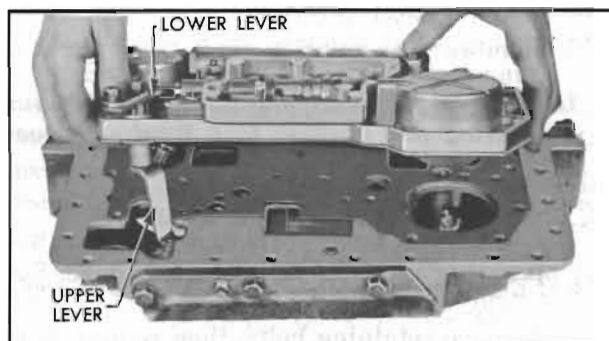

Figure 5-31—Removing Valve and Servo Body Assembly
8. Lightly pry upward on the assembly to free the gasket between servo body and transmission case. Push shift control valve and lower operating lever inward to align the lower lever with opening in transmission case, then remove the assembly. See figure 5-31. CAUTION: *Do*